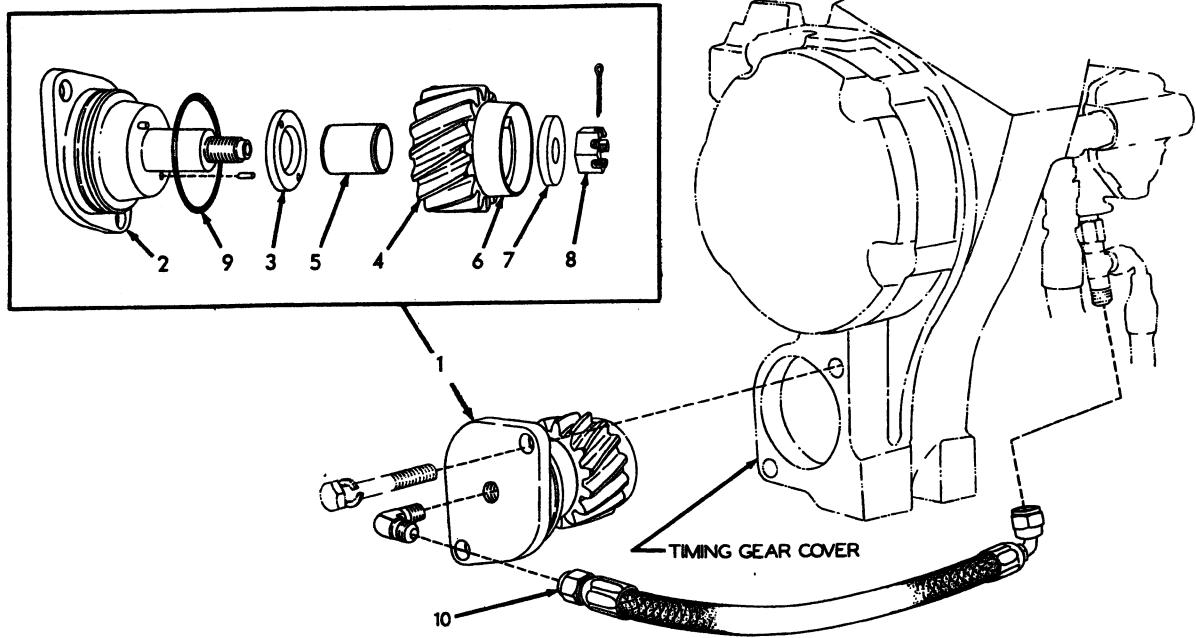

Fig. 12 — Type I Hydraulic Pump Drive
4. Remove capscrews and lockwashers and pull drive gear assembly (1) from timing gear cover.
5. Remove cotter pin and nut (8) from shaft.
6. Remove washer (7) gear (4) and washer (3). Remove O-ring (9).
G. TYPE I HYDRAULIC PUMP DRIVE ASSEMBLY AND INSTALLATION (Fig. 12)
1. Assemble drive gear by reversing the disassembly procedure. Install thrust washer (3) on dowel pins with oil grooves in washer facing the gear (4). Install retaining washer (7) with chamfered side facing the gear. After nut (8) is tightened, check end play between thrust washer (3) and gear (4). The specified end play is .002" - .007". If end play exceeds .010", replace thrust washer (3). The specified thickness of a new thrust washer is .186" - .188".